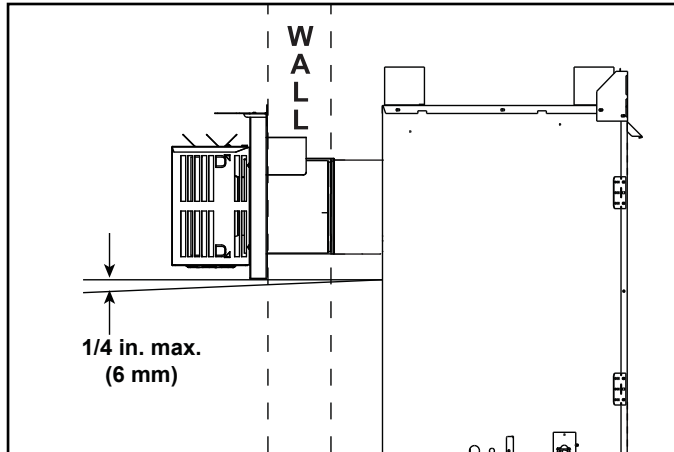

Figure 4.9
- It is recommended that the horizontal termination cap have a 1/4 inch downward slant to allow any moisture in cap to be released. See Figure 4.9.